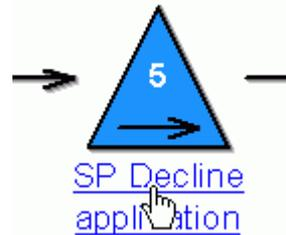

Figure 224: Hyperlink display (Example "subprocess")
- **click** on the **visualised object reference** (e.g. name of the sub model or referenced object), which is displayed as a hyperlink (see fig. 224),
**Hint:** The hyperlink function (see fig. 224) is only possible for non selected objects.